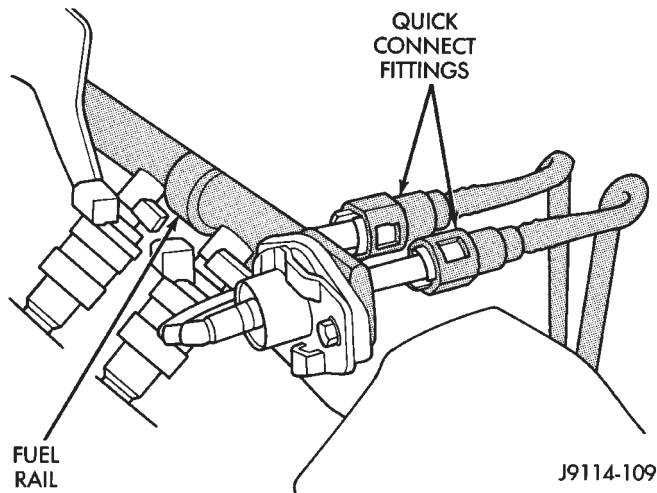

Fig. 15 Fuel Supply Tube—Typical
(10) Inspect fuel tube quick-connect fitting-to-fuel rail connections (Fig. 15).